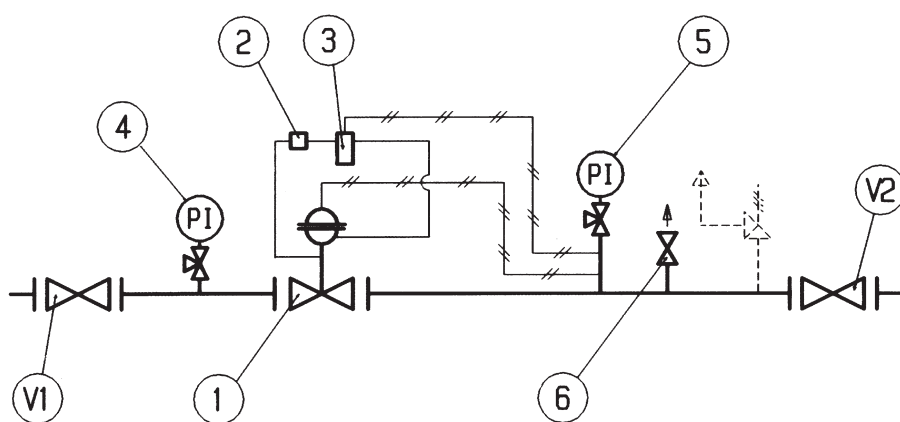

Fig. 15
5.3 COMMISSIONING THE REGULATOR REVAL 182 WITH PILOT P90+RR4 (FIG. 15)